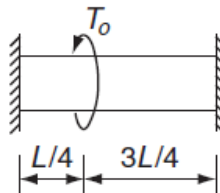

Figure 37 Question 50.
50. A solid shaft of diameter d and length L is fixed at both ends. A torque T_o is applied at a distance $L/4$ from the left-end as shown in Figure 37: